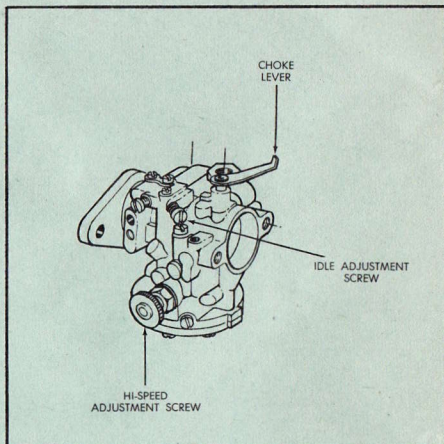

Figure No. 4
1. Open high speed adjustment needle $\frac{3}{4}$ turn counter-clockwise. (See Figure No. 4)
2. Move high speed adjustment screw, located on right side of carburetor approximately one (1) turn open.
3. Open idle mixture adjustment screw, located on top left side of carburetor approximately $\frac{1}{4}$ turn. (See Figure No. 4)